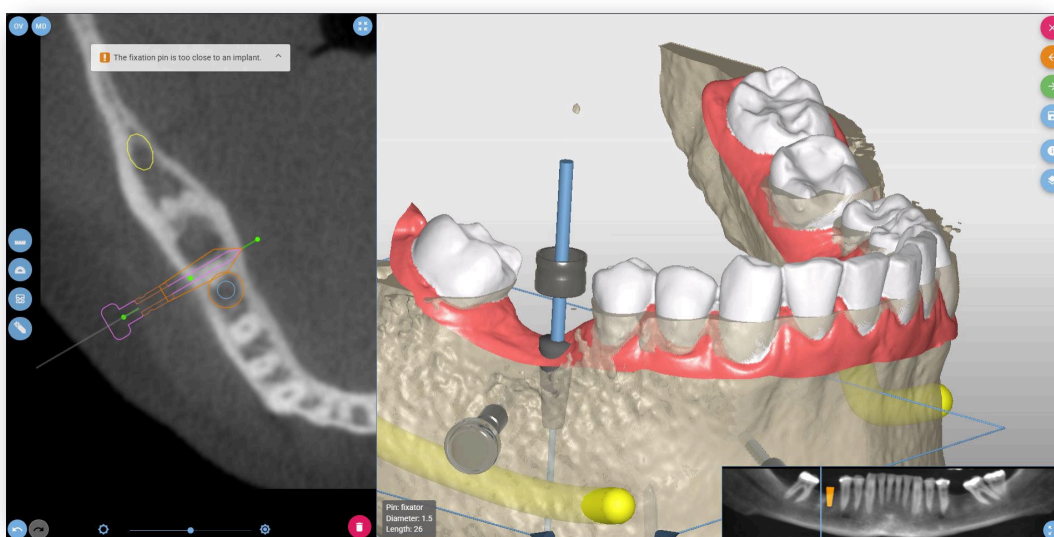

Figure 45: An implant and a fixation pin are in a conflicting position.
- An implant and a fixation pin are in a conflicting position (Figure 45).